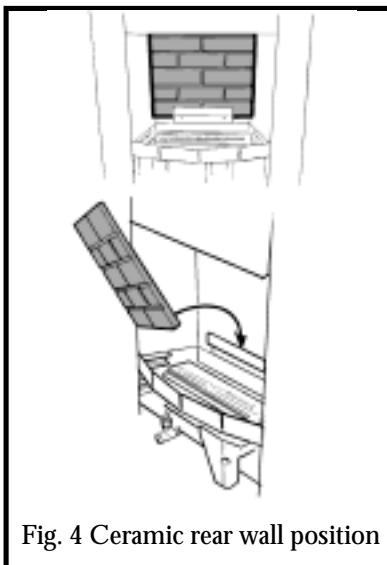

Fig. 4 Ceramic rear wall position
1. With its feather edge at the top, place the ceramic rear wall into the channel at the back of the fire box.. Push the wall flat against the rear of the fire box. (See figure 4).